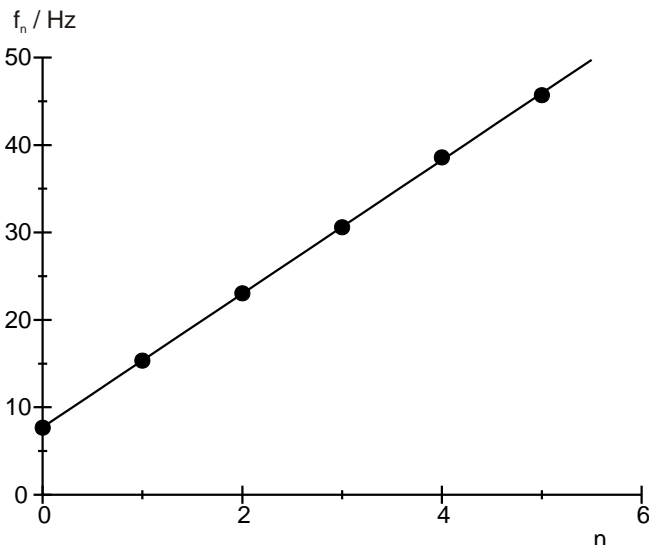

Fig. 6: Resonant frequency as a function of the number of nodes for waves along a coil spring
- Plot a graph of the resonant frequencies  $f_n$  for waves along the coil spring (Table 1) and waves along a rope (Table 2) against the number of nodes  $n$  in the oscillation and fit straight lines to the results in each case (Fig. 6, Fig. 7).